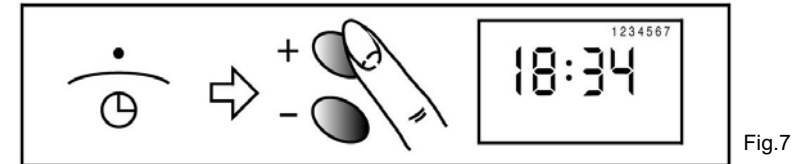

Fig.7
1. Turn the mode selector switch to the position. (see Fig.7)